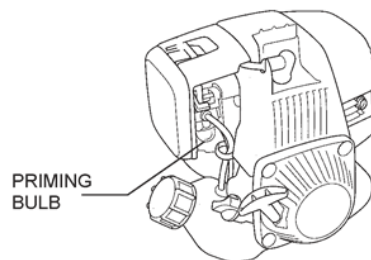

Figure 02
- 2) Press the priming bulb (Figure 02) repeatedly until fuel can be seen inside the clear plastic bulb.